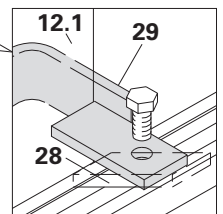

Fig. A2.08.2
4. Clamp the Ladder Holder (29) above the profile of the Access Handrail (12.1) and fix to the ladder profile with the clamping plate (28), SW 19. (Fig. A2.08.2)